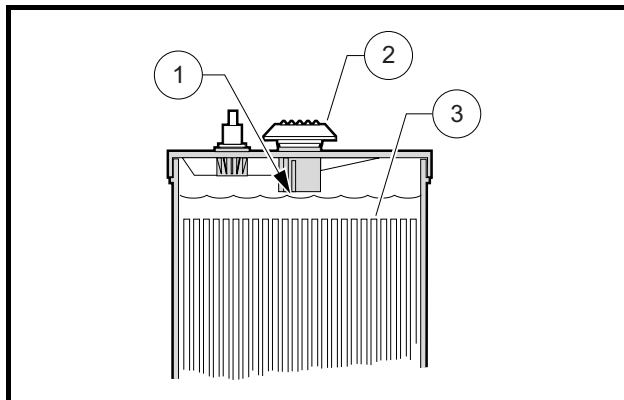

Figure 21 Battery Electrolyte Level
2. The electrolyte level in the batteries should be checked weekly (**Figure 21**). Add water only after charging unless the electrolyte level is below the top of the plates. In this case, add just enough water to cover the plates, charge and then check the level again. Never charge batteries if plates are exposed above electrolyte level. For best battery life, add only distilled water. **See following CAUTION and NOTE.**